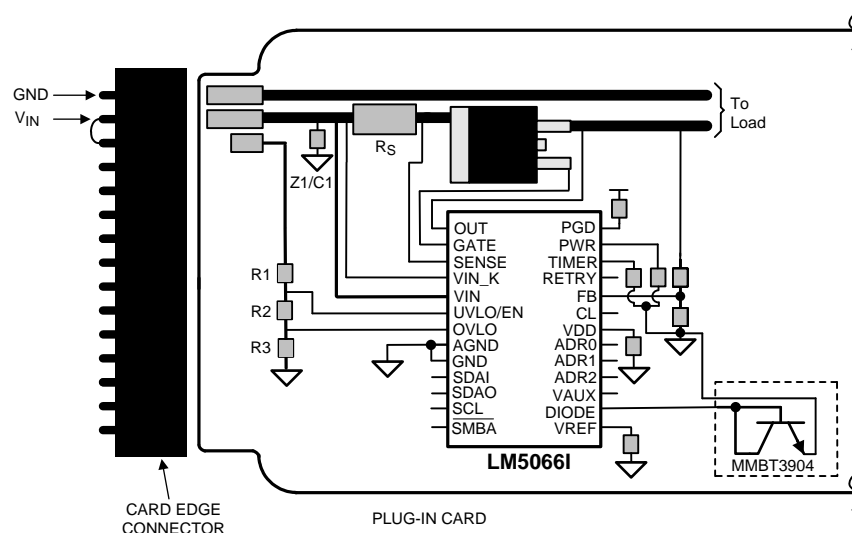

图 51. Recommended Board Connector Design
9. The board's edge connector can be designed such that the LM5066I detects through the UVLO/EN pin that the board is being removed, and responds by turning off the load before the supply voltage is disconnected. For example, in 图 51, the voltage at the UVLO/EN pin goes to ground before  $V_{IN}$  is removed from the LM5066I as a result of the shorter edge connector pin. When the board is inserted into the edge connector, the system voltage is applied to the LM5066I's VIN pin before the UVLO voltage is taken high, thereby allowing the LM5066I to turn on the output in a controlled fashion.